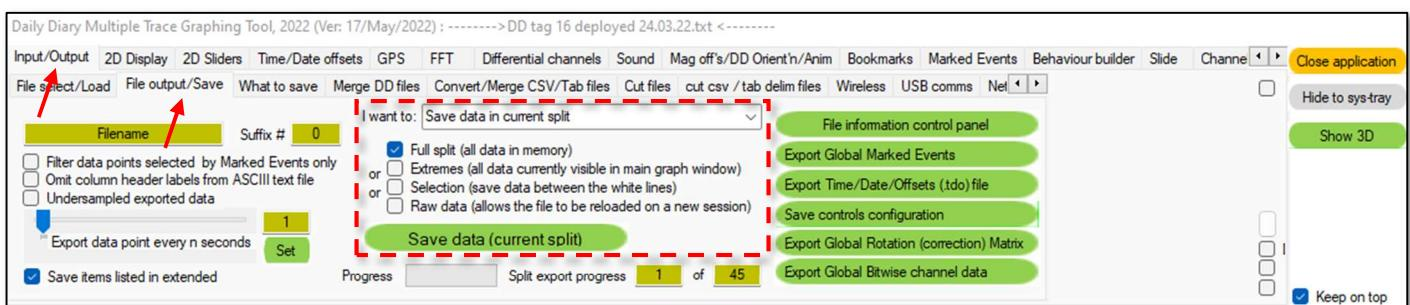

Figure 1.8 Save data in current split
**Figure 1.8** Using the “a” prefix will make the export function switch (alternate) between the odd and even strand at the 25% / 75% points to ensure that it doesn’t export the left and right extremes of each split where smoothed data is zero (due to the centred window averaging function)